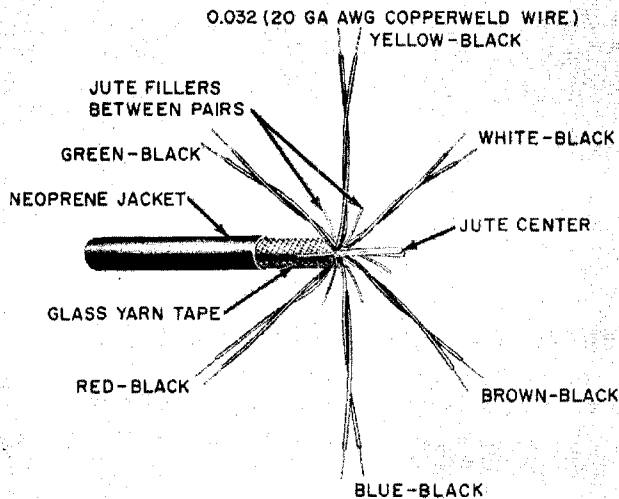

Fig. 3—B Multiple Drop Wire
2.06 Fig. 3 illustrates the makeup of B Multiple Drop Wire which was superseded by the C Multiple Drop Wire.